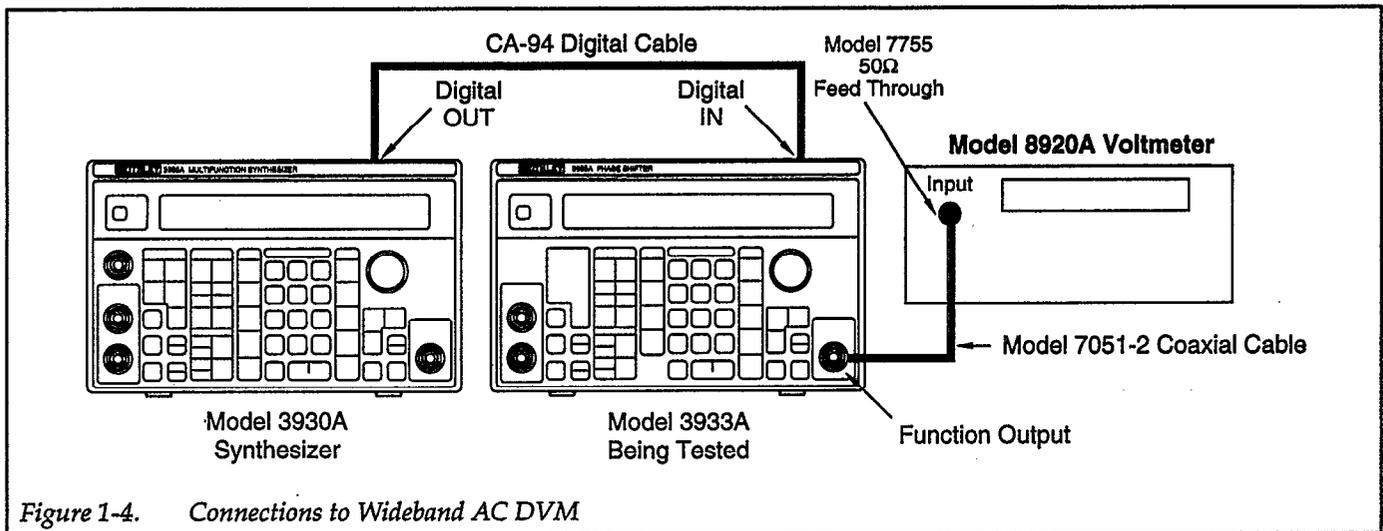

Figure 1-4. Connections to Wideband AC DVM
1. Connect the phase shifter to the Model 3930A and a wideband AC DVM as shown in Figure 1-4. Turn on all instruments.